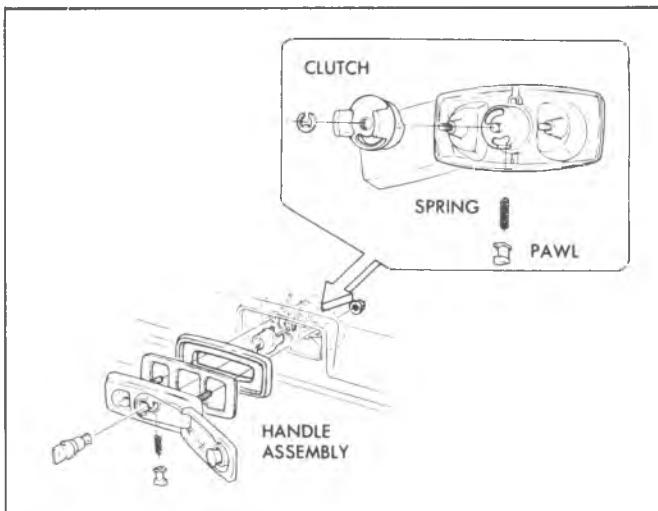

Fig. 54—Outside Handle (06 and 14)
10. From inside the endgate, remove the nuts fastening the outside handle to endgate and remove the outside handle. See figure 54.